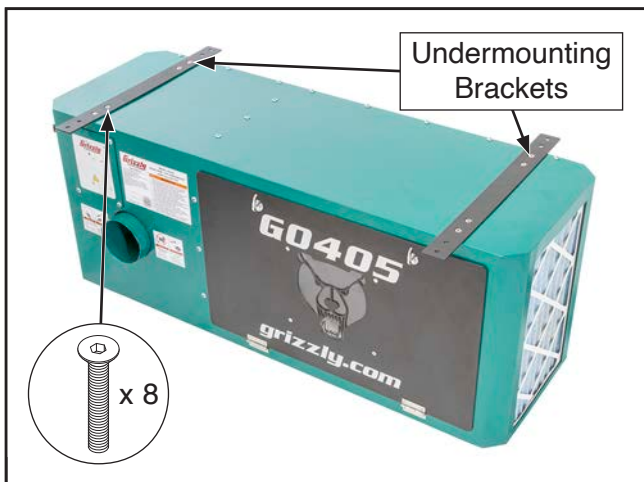

Figure 30. Undermounting brackets attached to machine body.
4. Attach (2) undermounting brackets to machine body with (8) $\frac{5}{16}$ "-18 x $\frac{5}{8}$ " flat head cap screws (see **Figure 30**).